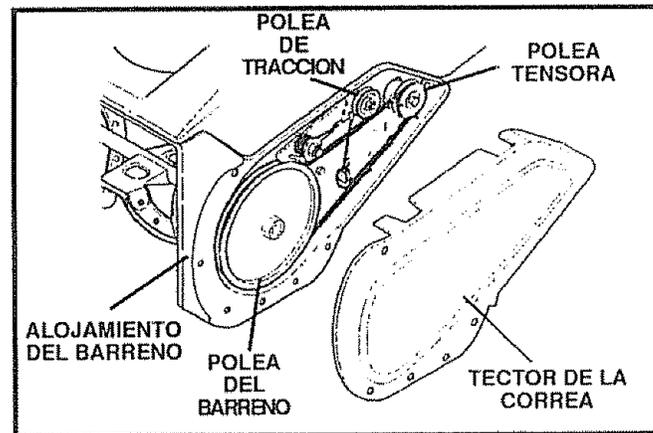

FIG. 12
- Remove the belt cover (see Fig. 12 on page 14) by removing the 7 screws